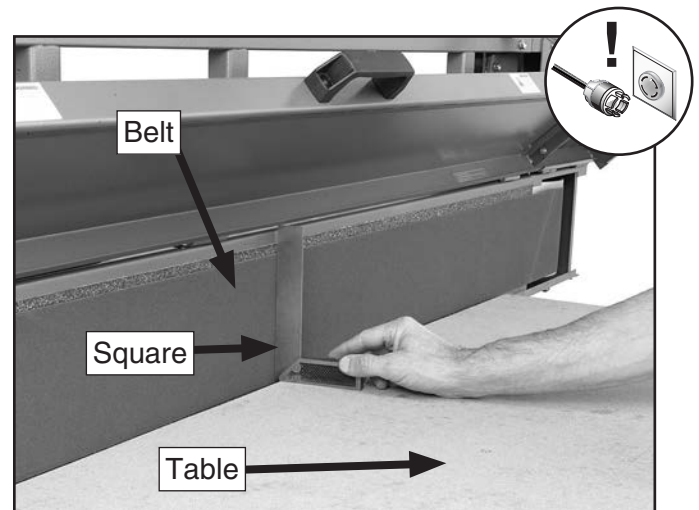

Figure 60. Checking belt for square.
3. Use a square to check the angle between the belt and the table at both ends of the machine (**Figure 60**).